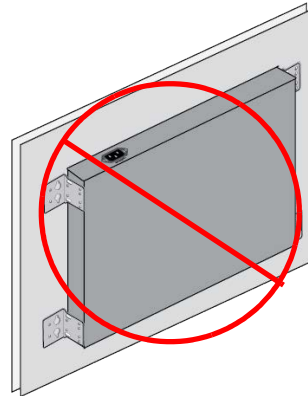

Figure 52. Unsupported Wall Installation for the x330-20GTX, x330-28GTX, and x330-52GTX Switches
- ❑ Do not install switches with the front panels facing down. Refer to Figure 52.